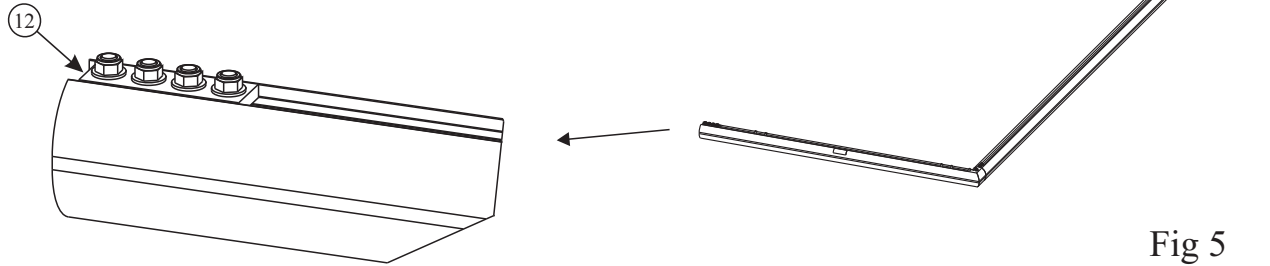

Fig 5
**Fit Joining Plates to Sidebar** - Loosely fit the Joining Plates (item 12) to the end of the Sidebars, as shown in Fig 5. Check that the additional 4 Square Head Bolts have also been slid into the section ready for the Wheels fitted later.